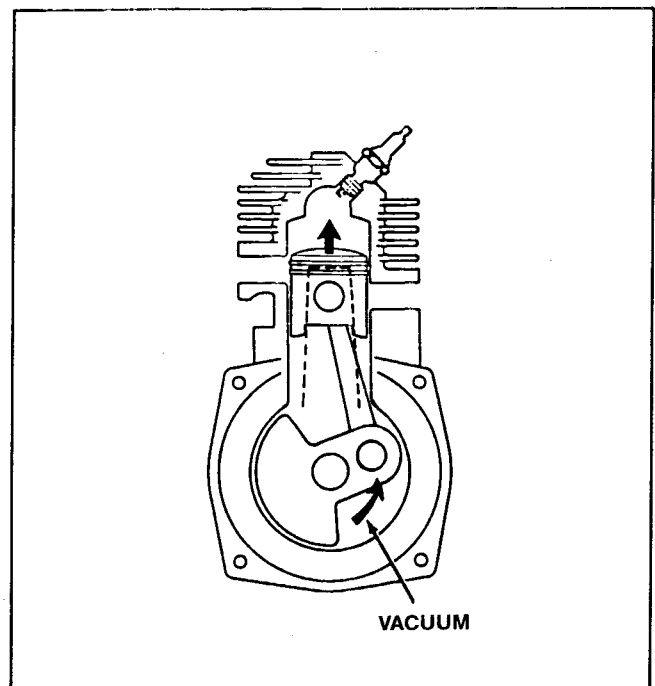

Figure 78
2. As the piston continues its upward stroke, vacuum begins to build within the lower crankcase. That vacuum will later be used to draw the intake mixture. See Fig. 78.